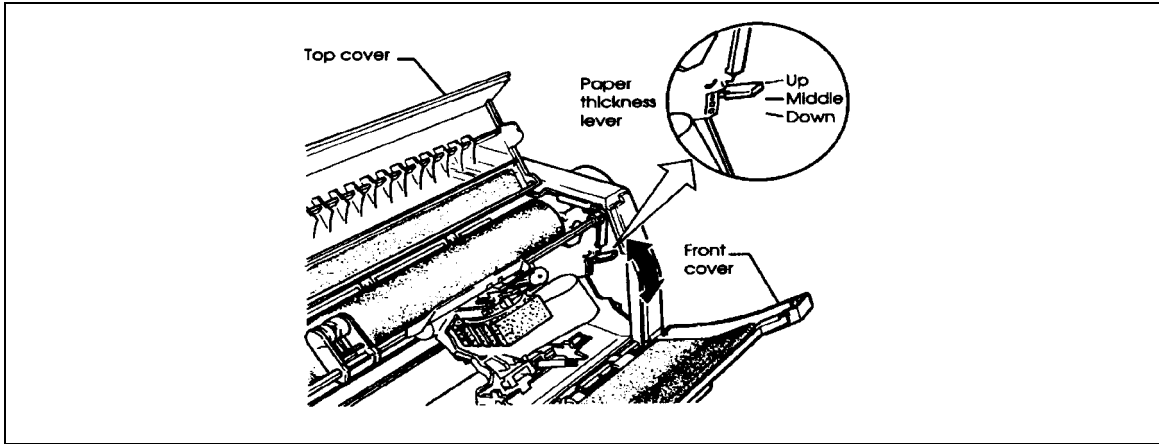

Figure 3-18. Preparing to Install the Ribbon.
- (4) Install the ribbon cartridge following the diagram provided in figure 3-18.